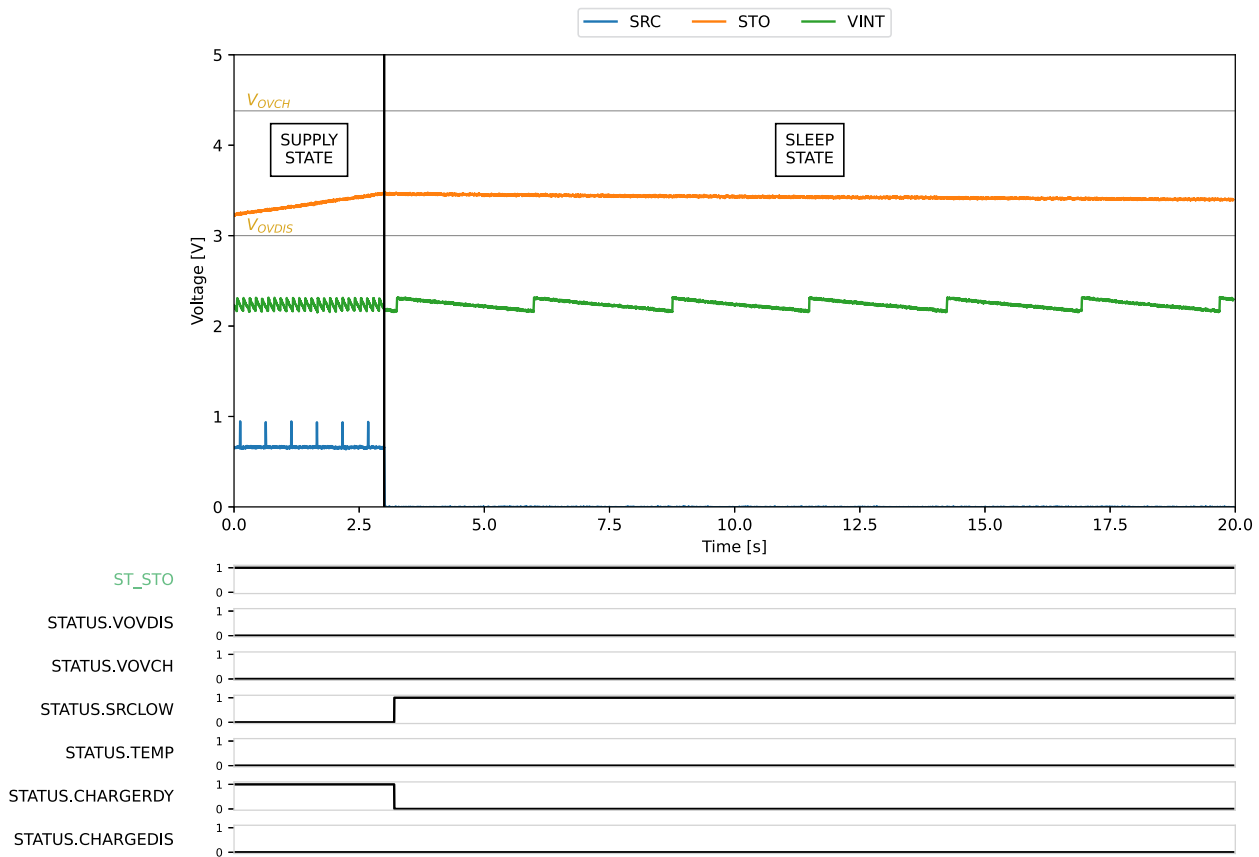
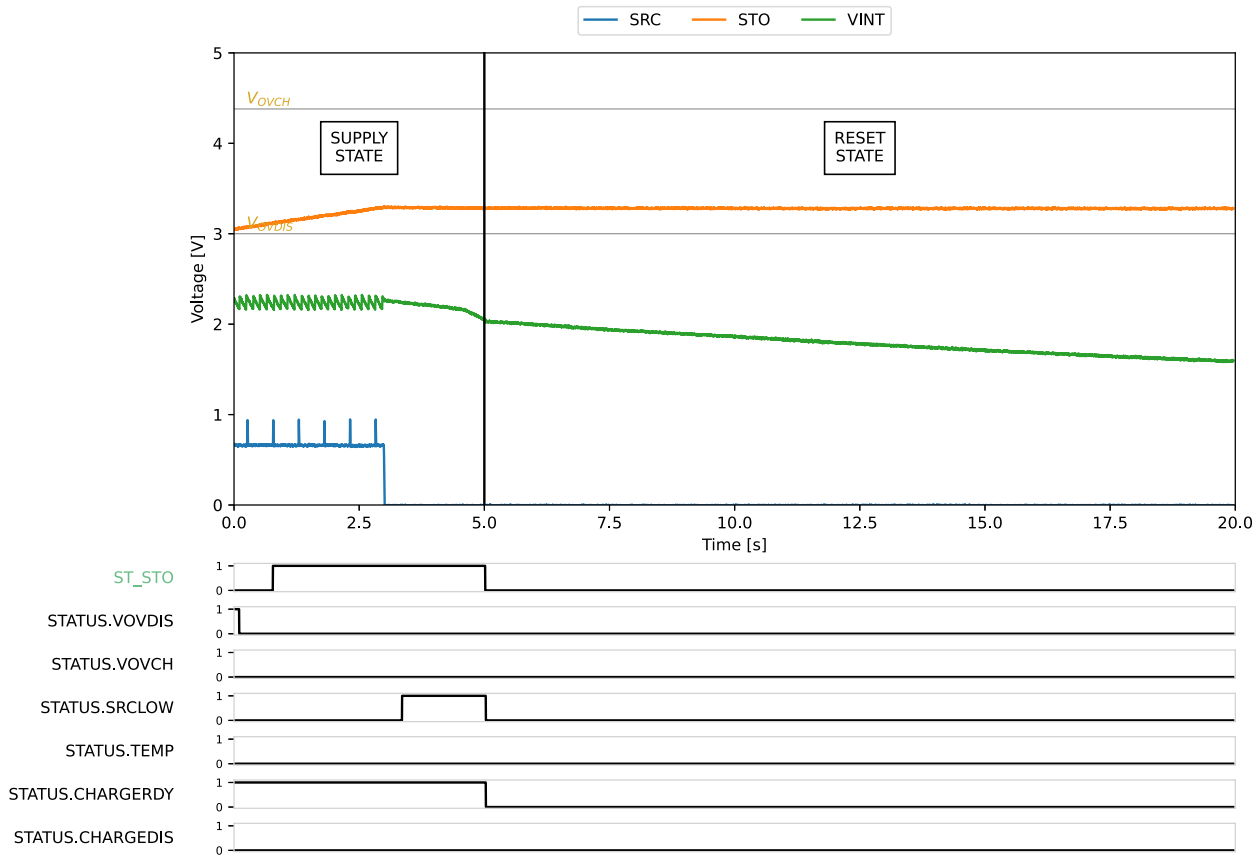

Figure 21: KEEP_ALIVE HIGH behavior
Figure 22: **KEEP_ALIVE** LOW behavior
- KEEP_ALIVE: is enabled on Figure 21 and disabled on Figure 22.
- **KEEP_ALIVE** = H (Keep-alive enabled, Figure 21): the AEM1090x switches to **SLEEP STATE**, **VINT** keeps being supplied from the storage element connected to **STO**. The AEM1090x will be able to harvest again as soon as power is restored to the **SRC** pin. On the other hand, a small current is pulled from the storage element (I_{QSLEEP} , see Table 6).
- **KEEP_ALIVE** = L (Keep-alive disabled, Figure 22): **VINT** can only be supplied from the energy available on **SRC**, so as soon as the power source is switched off, **VINT** stops being supplied. Once V_{INT} falls below $V_{INT,RESET}$, the AEM1090x switches to **RESET STATE**, so that no current is pulled from the storage element. The stored energy is thus preserved. On the other hand, when power is restored to the **SRC** pin, the AEM1090x must perform a cold start to resume harvesting.